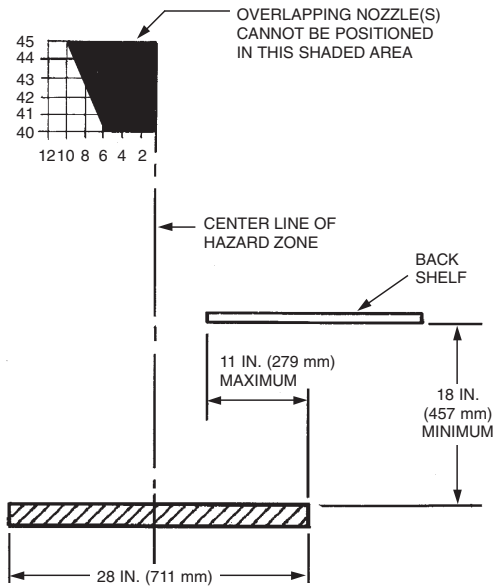

FIGURE 73
Exception No. 1: Nozzle dimensions for wok protection are measured to bottom of wok. Exception No. 2: When using overlapping appliance nozzles in areas where there is a back shelf, the nozzle cannot be positioned in the shaded area as shown in Figure 73.
- ▶ Also, back shelf must not extend more than 11 in. (279 mm) over the hazard zone and cannot be less than 18 in. (457 mm) above the hazard zone. See Figure 73.